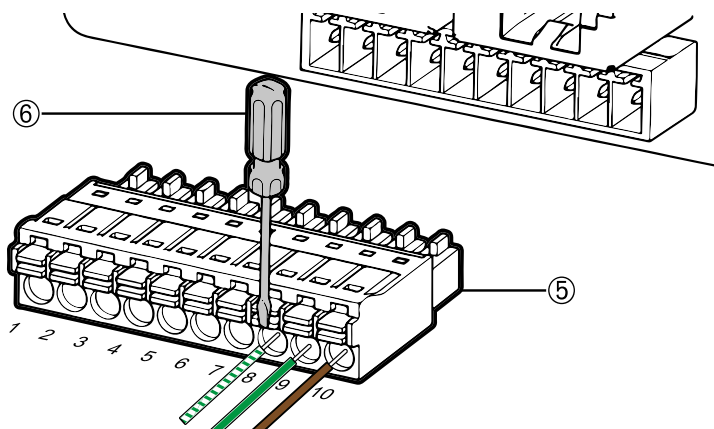

Fig. 2.12 - terminal plug
- Extract the terminal plug from the terminal socket (5, Fig. 2.12).
- Follow the instructions of Pin 1~10 Assignment Table (see “Tab. 2.6 - Assignment Table” at page 21), and insert the cable terminal into the corresponding pin of the terminal plug. You can use a screwdriver as shown (8, Fig. 2.12) or your finger to press the button.
- After cables connection, insert the terminal plug into the terminal socket (5, Fig. 2.12);